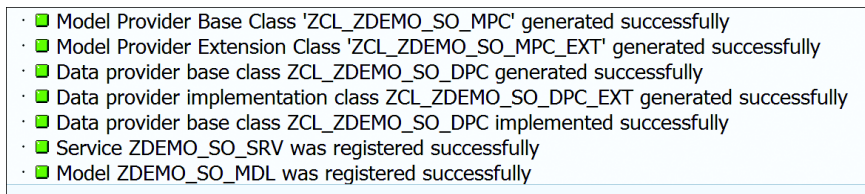

Figure 19.112 Generation Message
13. In the next window, accept the default values and save the object. At this point, you can verify that the generation was successful, as shown in Figure 19.112.